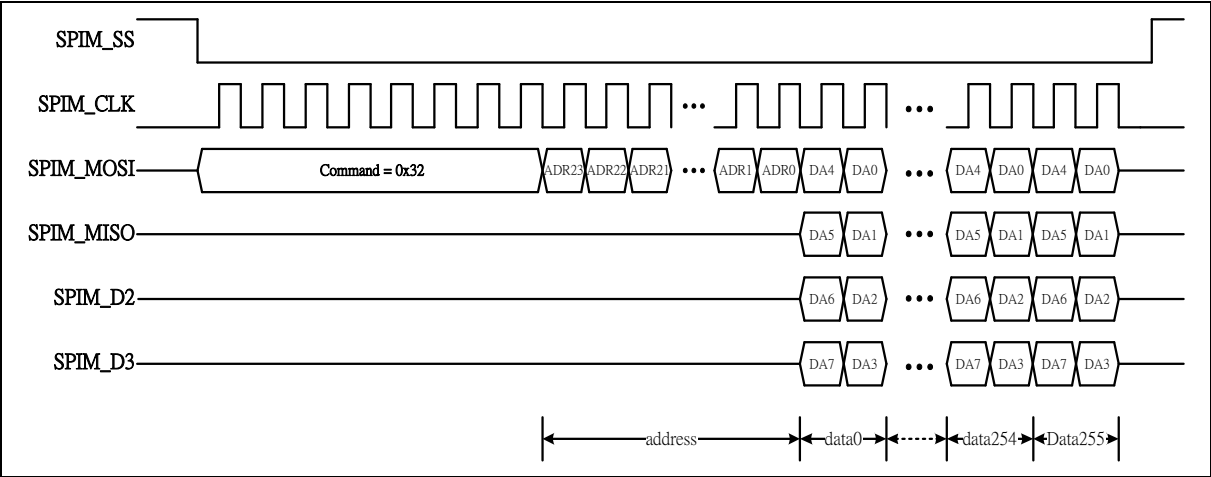
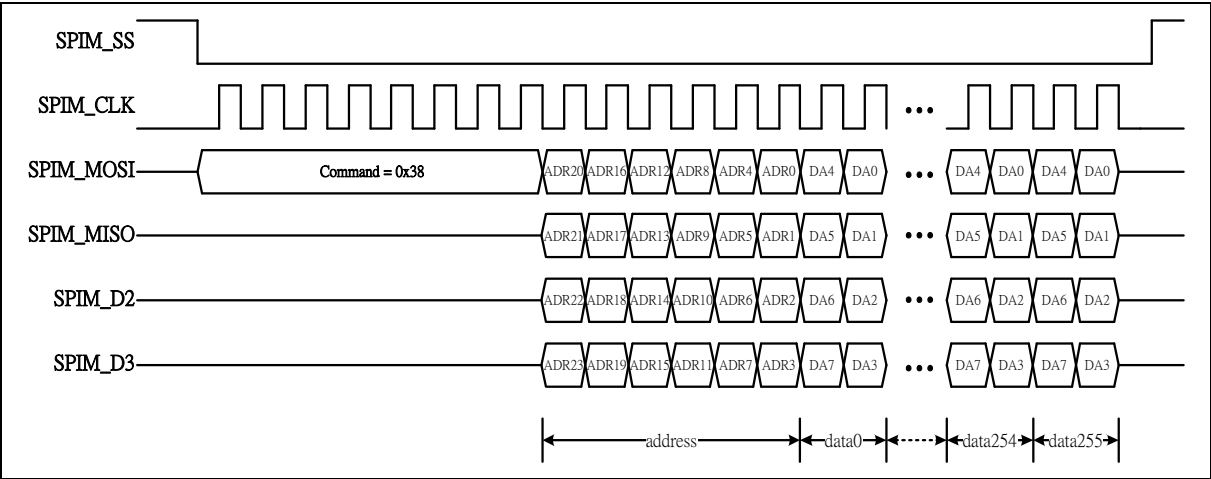
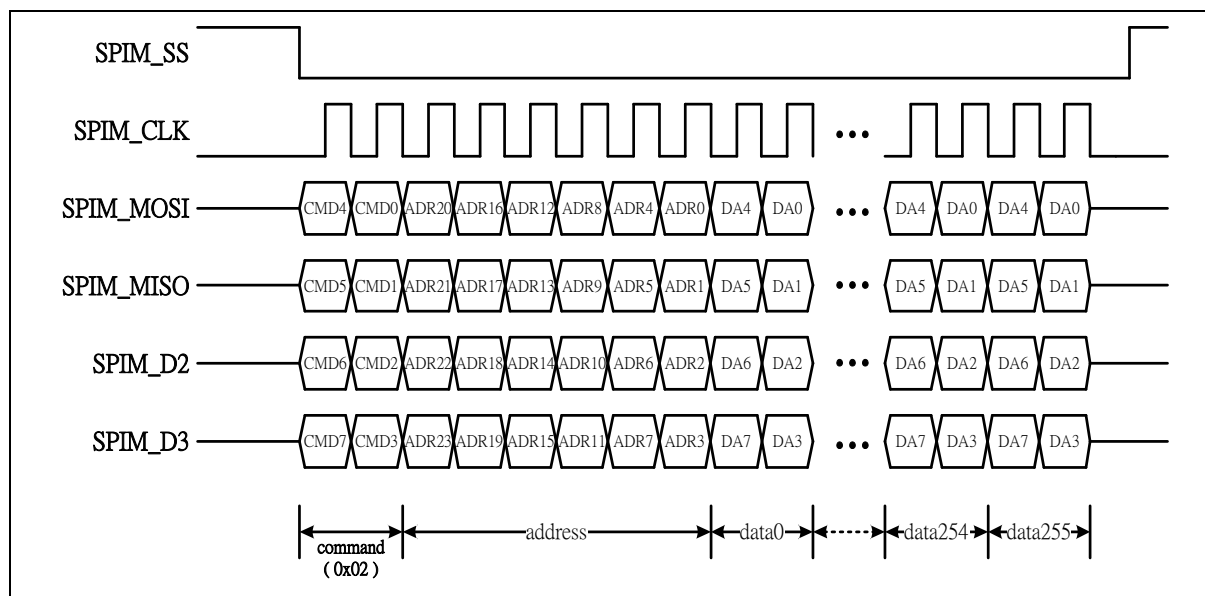

Figure 6.13-3 TYPE_1 Program Command Flow with Quad Mode Write.
Figure 6.13-4 TYPE_2 Program Command Flow with Quad Mode Write.
Figure 6.13-5 TYPE_3 Program Command Flow with Quad Mode Write.
- (refer to Figure 6.13-3).
- 2. Quad write, set CMDCODE (SPIM_CTL0[31:24]) to 0x38 for TYPE_2 program command (refer to Figure 6.13-4).
- 3. Quad write, set CMDCODE (SPIM_CTL0[31:24]) to 0x40 for TYPE_3 program command (refer to Figure 6.13-5).
[31:24]	CMDCODE Page Program Command Code 0x02 = Page program (Used for DMA Write mode). 0x32 = Quad page program with TYPE_1 program flow (Used for DMA Write mode). 0x38 = Quad page program with TYPE_2 program flow (Used for DMA Write mode). 0x40 = Quad page program with TYPE_3 program flow (Used for DMA Write mode). The Others = Reserved. Read Command Code 0x03 = Standard read (Used for DMA Read/DMM mode). 0x0B = Fast read (Used for DMA Read/DMM mode). 0x3B = Fast dual read (Used for DMA Read/DMM mode). 0xEB = Quad read (Used for DMA Read/DMM mode). The Others = Reserved. Note1: Quad mode of SPI Flash must be enabled first by I/O mode before using quad page program/quad read commands. Note2: See support list for SPI Flash which support these command codes. Note3: For TYPE_1, TYPE_2, and TYPE_3 program flows, refer to Figure 6.13-3, Figure 6.13-4, and Figure 6.13-5.